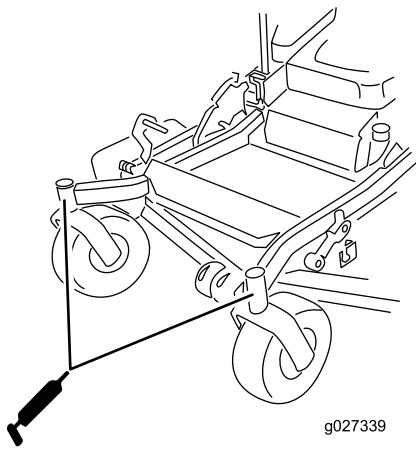

Figure 54
13. Install the hex plug and dust cap (Figure 54).